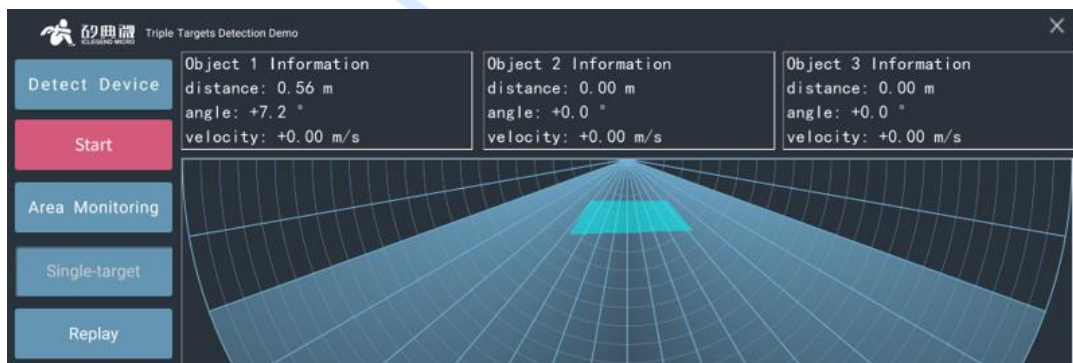
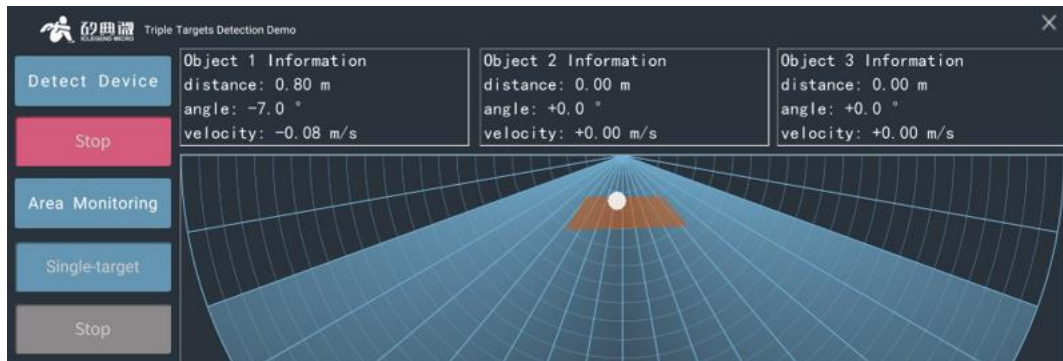
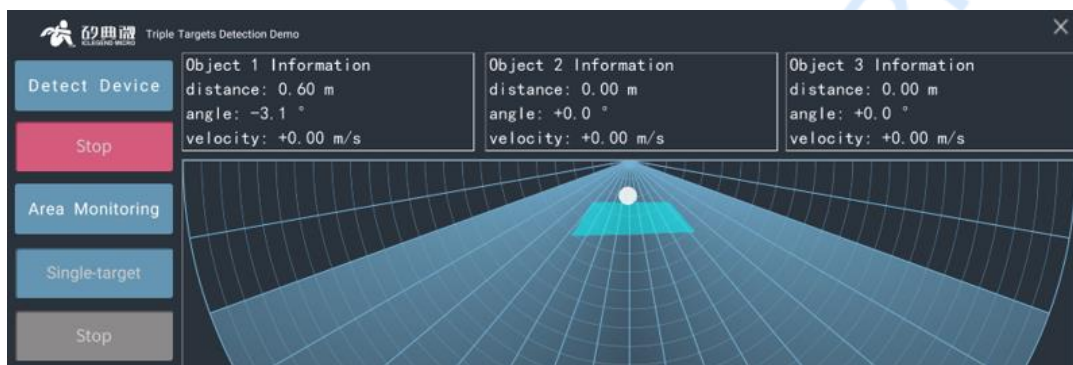

Figure 4-11 Example of a defined monitoring area
Figure 4-12 Target exists in monitoring area
Figure 4-13 No target in monitoring area
Step 3: Click the **Add Monitor Area** button to start defining a monitoring area, click in the radar chart to define the vertexes of the desired monitoring area in clockwise or anti clockwise direction, right-click to finish the process, and the GUI will display the defined monitoring area, an example is shown in Figure 4-11; After setting the monitoring area, if a human target is detected in this area, the background color of this area changes immediately, as shown in Figure 4-12 and Figure 4-13.